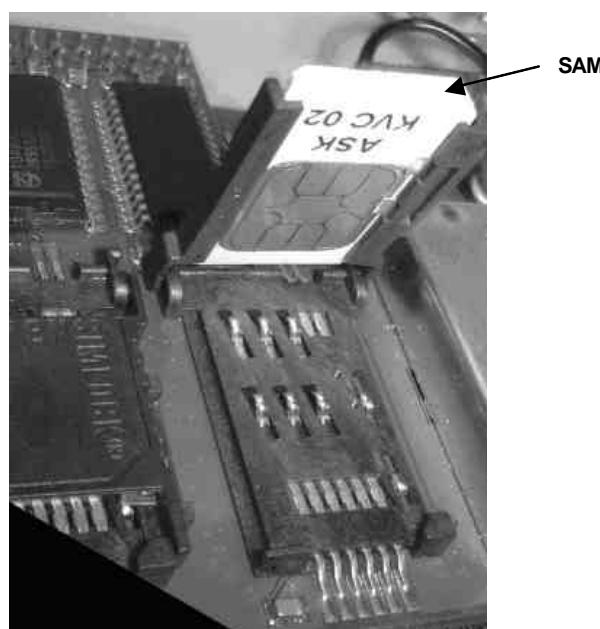

Figure 5 : SAM in open door
**Caution:** In a first time, µSIM SAMs must be gently inserted in the open door socket (Figure 5), then in a second time the door should be locked.